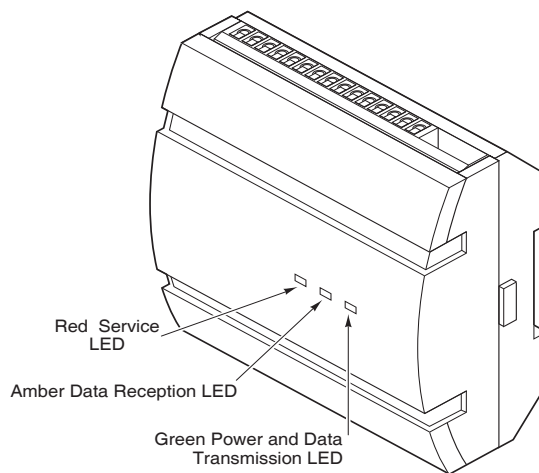

Figure-10 Location of Controller LEDs.
3. Observe green Data Transmission LED (Figure-10) and do the following:
4. Observe red Service LED (Figure-10) and do the following: